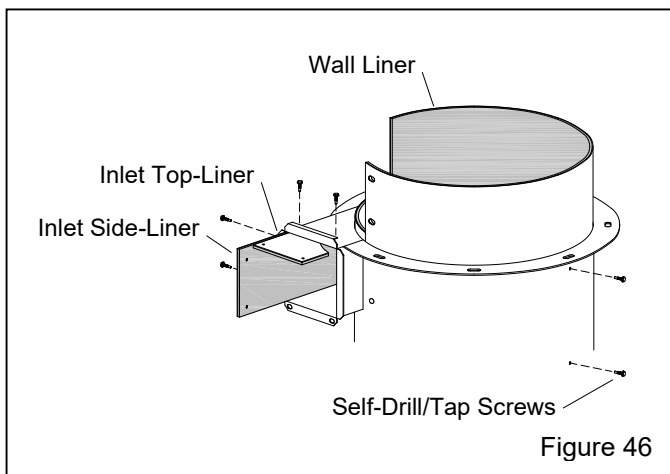

Figure 46
7.12.11 Remove the screws holding the inlet side liner and inlet top liner, and remove both liners from the reclaimer inlet, as shown in Figure 46.